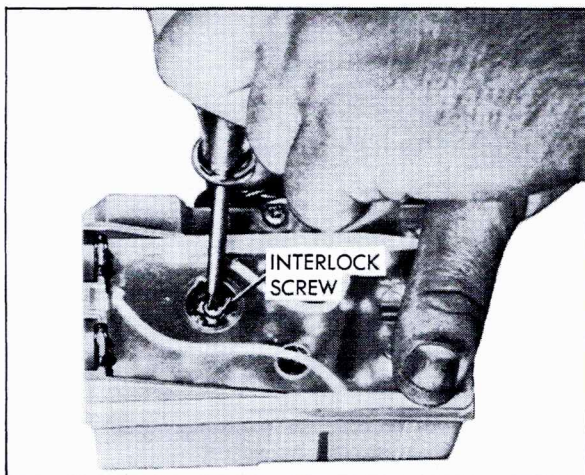

Fig. 15-47 Time Delay Interlock Screw
3. Insert screwdriver in hole as shown in Fig. 15-47 and turn time delay interlock screw counterclockwise until the screw head no longer contacts the two solder pads on the circuit board.